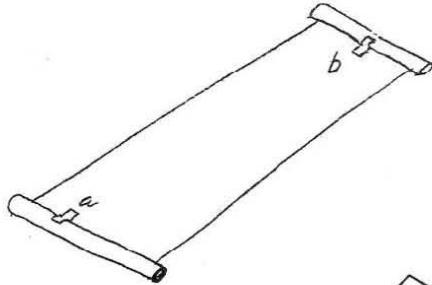

FIGURE 2
- B. Unglazed flat plate collector – 5 sets of 2 labels – see Figure 2: